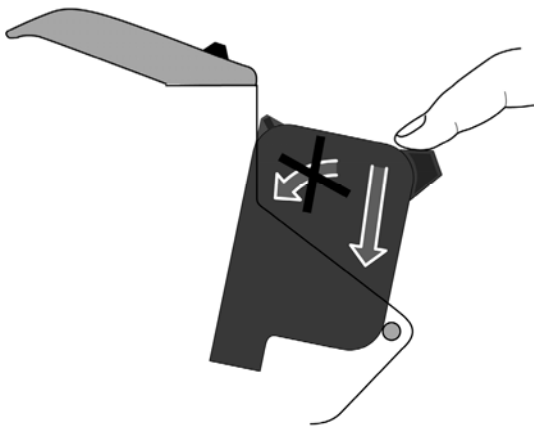
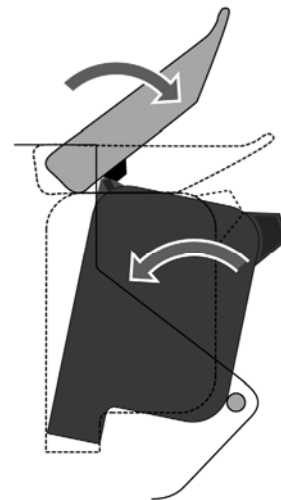

Figure 8: Inserting the ink cartridge
Figure 9: Lock the restraining lever
To avoid connection problems and damage, please install the cartridge as seen in Figure 8 and Figure 9.
- Lock the lever in direction of the arrow as shown in Figure 9. Thus, the ink cartridge is tilted into its final position, and the contact is established correctly.